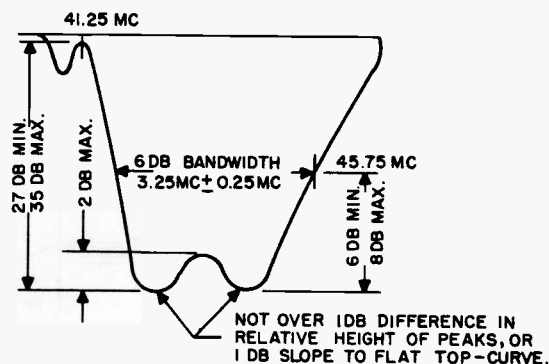

Fig. 6. Alignment Curve
10. Adjust remaining I-F coils as required to obtain response curve as shown in Fig. 6 as follows: